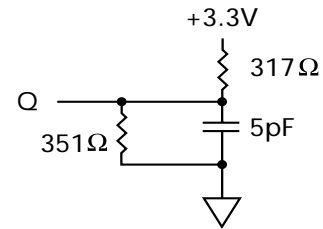

Figure 2
- The load used for VOH, VOL testing is shown in Figure 2. AC load current is higher than the shown DC values. AC I/O curves are available upon request.
3. This parameter is measured with the output loading shown in Figure 2.